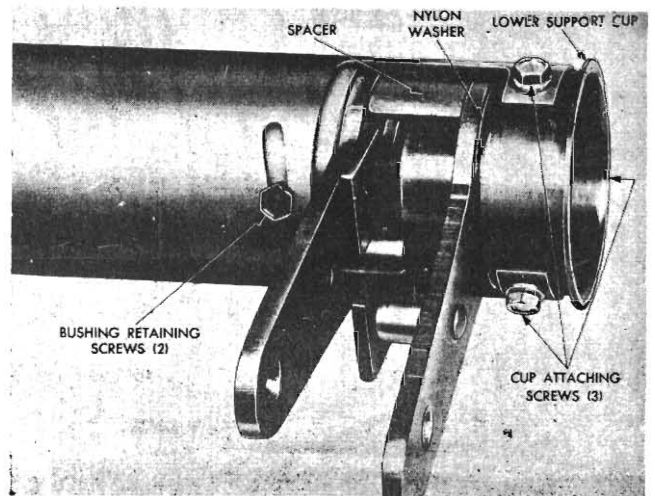
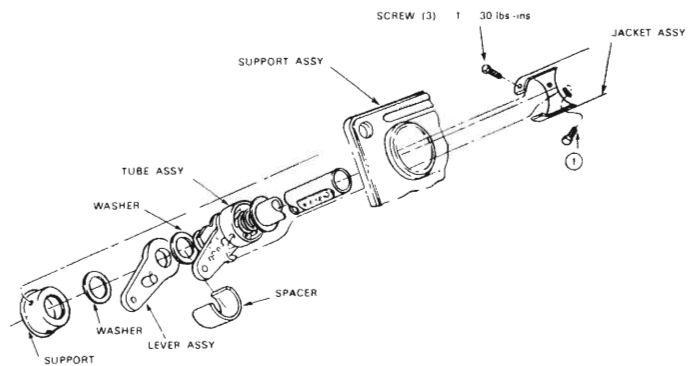

Fig. 5 - Lower end of steering column tube assembly (typical)
Fig. 6 - Gearshift tube lever and jacket support (typical)
(8) Remove the three lower support cup to jacket attaching screws (see Figs. 5 and 6) and remove the cup.
(9) Remove the nylon thrust washer, the low and reverse lever and the spacer.
(10) Remove the two lower shift tube bushing retaining screws at the slotted holes in the jacket.
(11) Slide the shift tube with the 2nd and direct lever, nylon bushing, spring and spring retainer out of the jacket (see Figs. 6 and 7).
(6) The floor plate assembly must be installed before installing the shift tube and levers, since this cannot be done after the shift tube and levers are in place in the steering column.
(7) Turn the nylon bushings on the shift tube (see Fig. 6) so that the two holes in the bushings are aligned with the centreline of the 2nd and 3rd speed shift lever, then slide the shift tube and lever assembly through the jacket tube and into the bearing housing.
(8) Install the spacer around the selection lever so it rests against the 2nd and 3rd speed shift lever (see Fig. 6).
(9) Install the low and reverse lever. Then install the nylon washer (see Fig. 5) centring it over the end of the shift tube.
(10) Install the lower support cup in the jacket (see Fig. 5) whilst holding pressure against the cup to overcome the selector spring load, start the three support cup retaining screws, and tighten to 30 lbs./in.
(11) Loosely enter the lower bushing retaining screws through the slots in the jacket, and into the nylon bushing (see Figs. 6 and 7).
(12) Rotate the nylon bushing to where all play at the shift levers and spacers is eliminated, but no binding occurs. With the bushing in this position, tighten the two bushings to jacket screws to 30 lbs./in. torque.